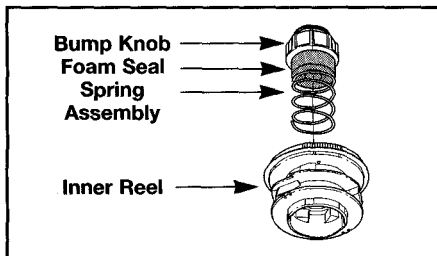

Fig. 25
2. Remove the Bump Knob, foam seal, spring, inner reel, and trimming line from the outer spool (Fig. 25).
5. Install the inner reel, line, spring, foam seal, and Bump Knob into the outer spool (Fig. 25).